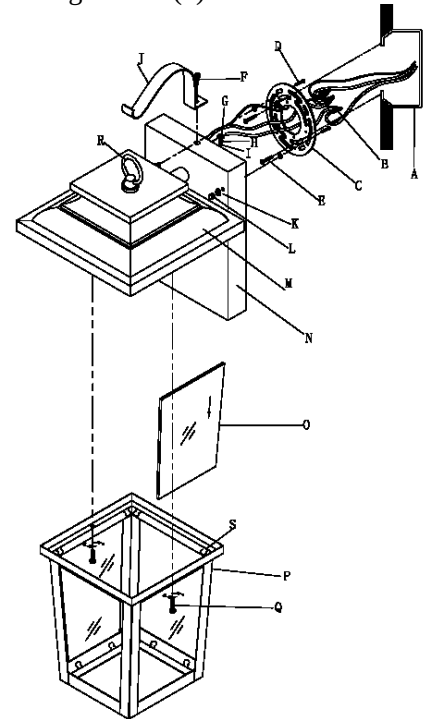

Fig. 2
CONNECTION THE WIRES (Fig. 2)
6. Connect the electrical wires as shown in (Fig. 2), making sure that all wire connectors (B) are secured. If your outlet has a ground wire (green or bare copper), connect the fixture ground wire to it. Otherwise, connect the fixture ground wire directly to the mounting plate using the green screw provided.